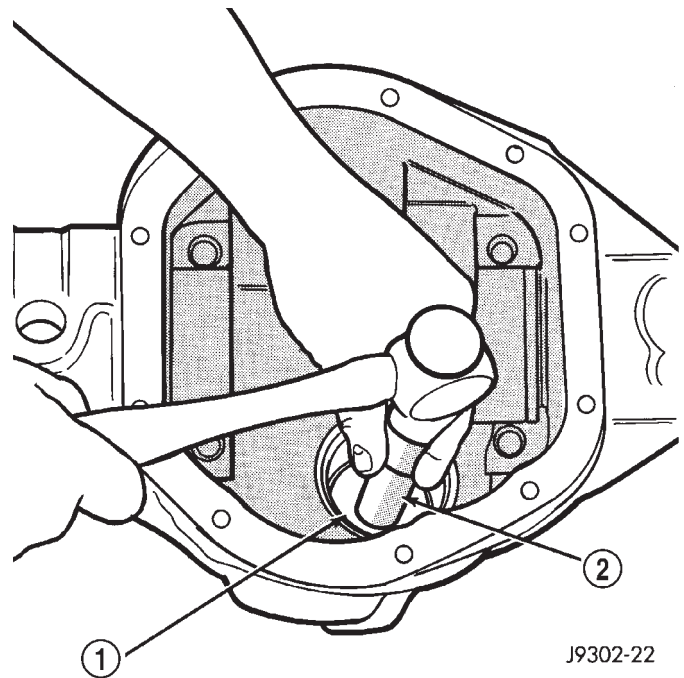

Fig. 40 Front Bearing Cup Removal
(7) Remove the front pinion bearing cup, bearing, oil slinger, if equipped, and pinion seal with Remover D-147 and Handle C-4171 (Fig. 40).